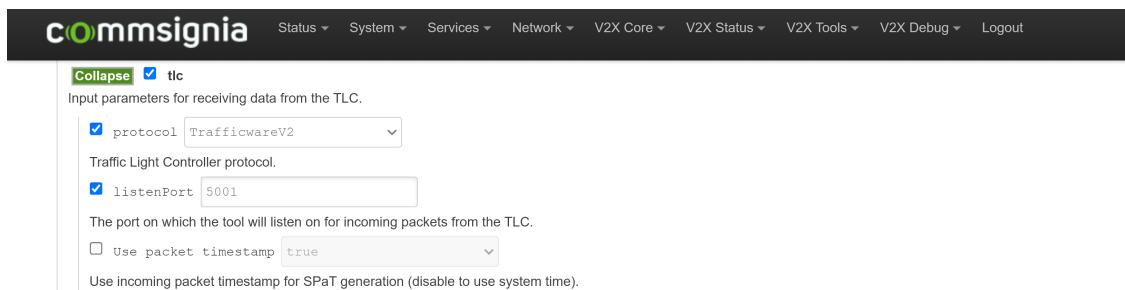

Figure 33. TrafficWare protocol settings
- For the TrafficWare proprietary UDP bit stream, check the box near `protocol` and select `TrafficwareV2` or `TrafficwareV3` as applicable, as shown in Figure 33.